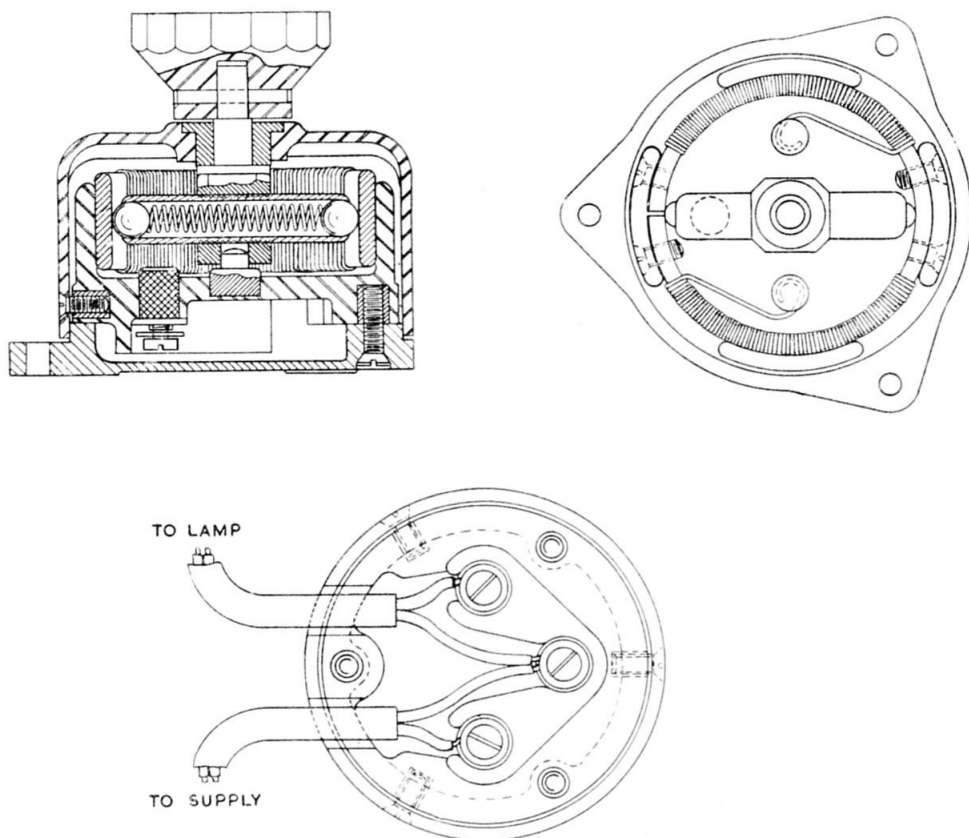

Fig. 2. Construction of dimmer switch
2. The construction of the switch is shown in *fig. 2*. The resistance is wire-wound on a ring former; two separate resistance elements are wound on each former, and one end of each is connected to a terminal. Contact is made on the wire by two steel balls in the ends of a tube, which is held in a metal block
4. The base, terminal plate, cover and knob are moulded in black insulating material. The base has three lugs with 0.125 in. dia. holes on a 2 in. pitch circle for mounting. The method of wiring is shown in the lower sketch of fig. 2. The centre terminal has no internal connection, but is used as a junction point for the direct connection from the lamp to the supply.